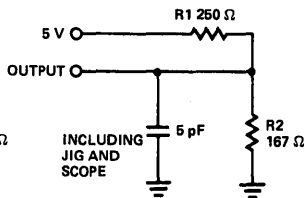

Figure 1b
8. tHZCS is tested with load shown in Figure 1b. Transition is measured at steady state High level - 500 mV or steady state Low level + 500 mV on the output from the 1.5V level on the input.